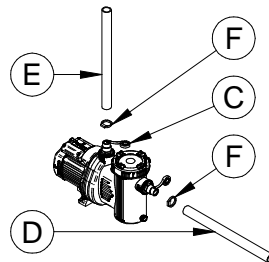

Fig. 60
3. Apply some turns of the supplied teflon around the rubber holders (Fig. 60, # C; *hydraulic parts*) to ensure the pipe is sealed (*hydraulic parts*) onto the rubber holder.
4. Connect the *inlet* pipe (*hydraulic part*) to the IN rubber holder (Fig. 60, # D) and the outlet pipe to the OUT rubber holder (Fig. 60, # E). Fix the pipes (*hydraulic part*) with clips (Fig. 60, # F).